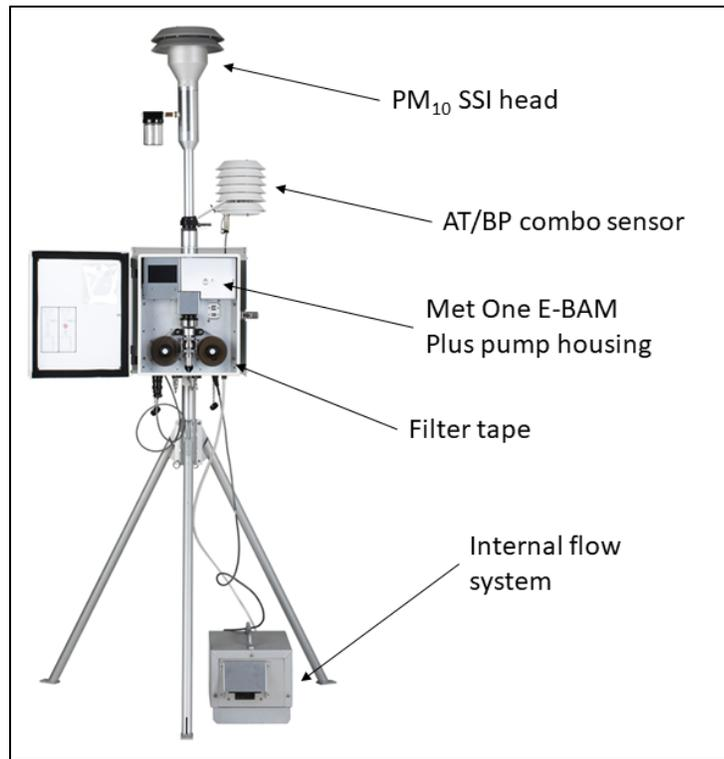

Figure AR-28. Met One E-BAM Plus
1. See Figure AR-28 for illustration of the E-BAM Plus.